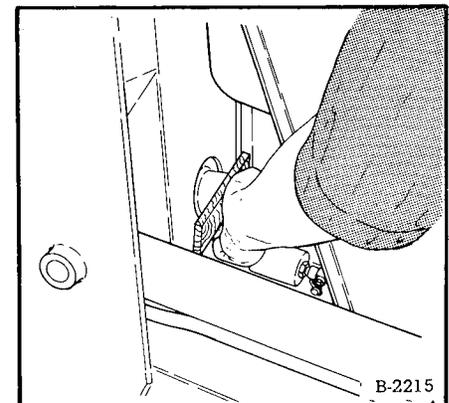

Fig. 1-9 Checking Air Cleaner System
- (3) Check complete air inlet system and replace any parts which have a defect.
(4) Check the operating condition of the system, as follows:
- b. Hold a piece of wood over the inlet pipe of the air cleaner (Fig. 1-9). The engine must slow down then stop.